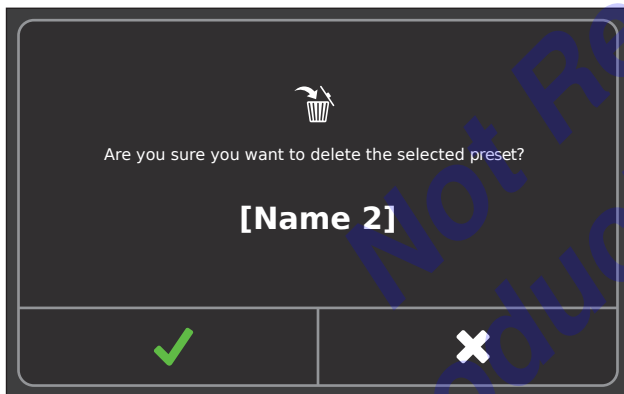

Figure 67 – Confirm Preset Deletion
3. From the confirmation pop-up, touch the CONFIRM button to delete the preset or the CANCEL button to cancel the request (Figure 67).